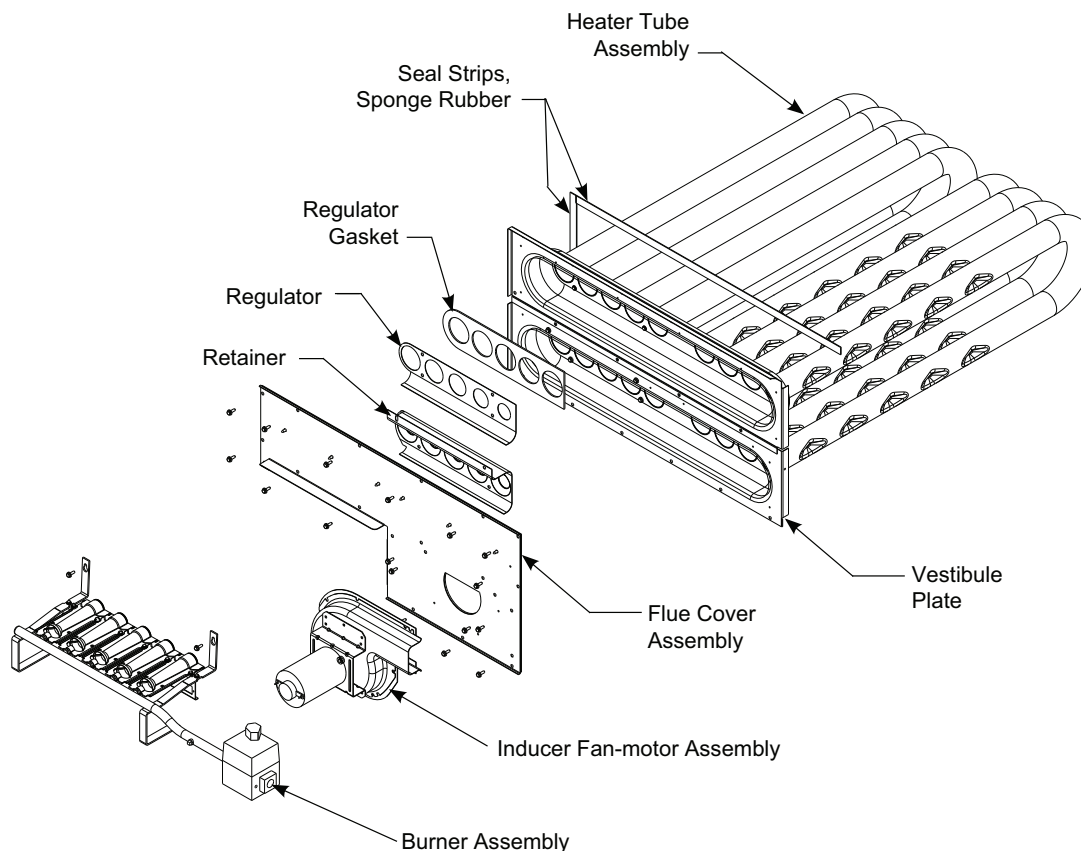

Fig. 50 — Heat Exchanger Assembly
1. Remove the combustion blower wheel and motor assembly according to directions in Combustion-Air Blower section. See Fig. 50.
2. Remove the seven screws attaching the induced-draft motor housing to the vestibule plate. (See Fig. 50.)
9. Remove the two screws attaching the burner rack to the vestibule plate (see Fig. 50).
10. Remove the pressure switch hose from the connection on the flue cover assembly (see Fig. 50).
14. Separate the following from the heat exchanger: inducer fan-motor assembly, flue cover assembly, retainer, regulator, and regulator gasket. See Fig. 50.